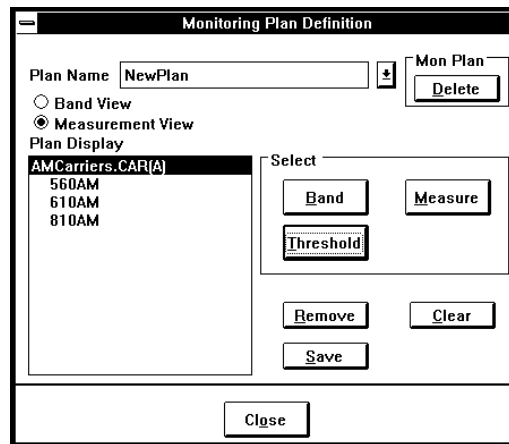

Figure 6-26: Monitoring Plan Definition Dialog Box
1. Click on **S**etup in the **Main Menu Bar** and from the dropdown menu select **M**onitoring Plan... to open the **M**onitoring Plan Definition Dialog Box (Figure 6-26).